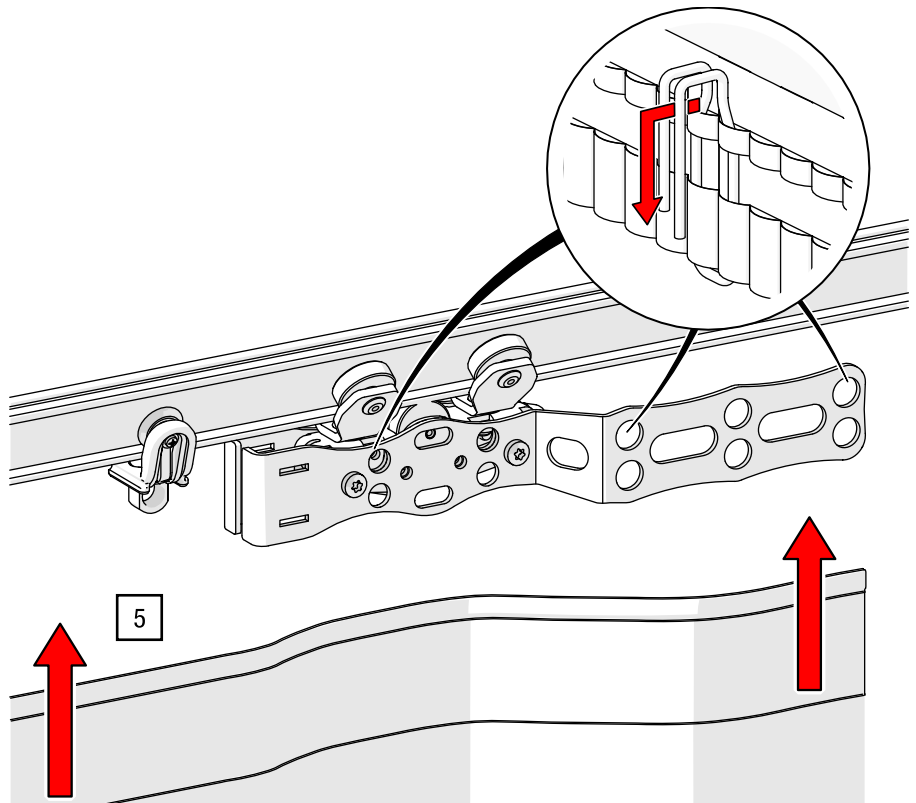

Fig. 102: Curtain with curtain hooks – Hanging into master runner with overlap arms
5. Lift the curtain and hang the curtain hooks into the upper holes of the master runner with overlap arms (see Fig. 102).